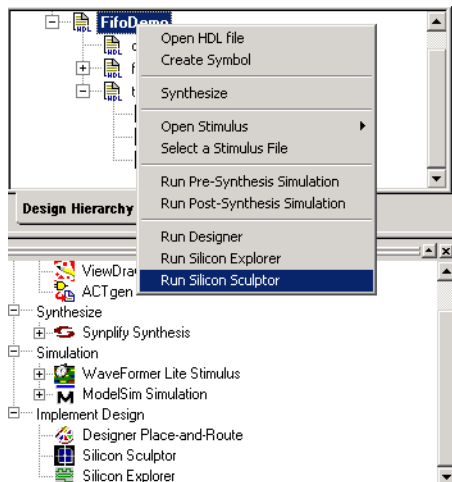

Figure 10-4. Starting Silicon Sculptor
2. **Click *Run Silicon Sculptor*, as shown in Figure 10-4.**